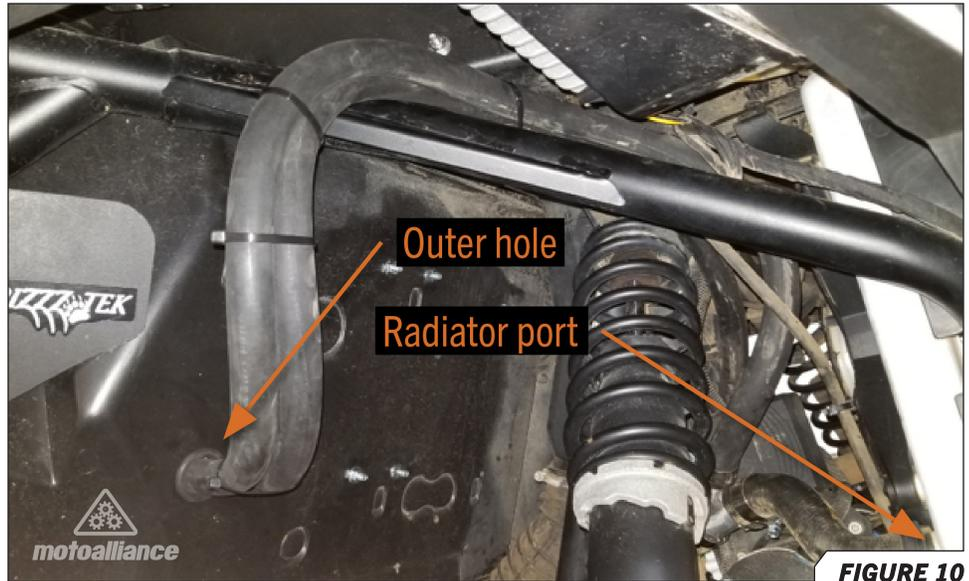

FIGURE 10
20. Route the cut-off portion of 5/8" radiator hose back through the outermost hole in the firewall, back over the frame rail, and to the outlet port of the radiator as shown in **FIGURE 10**. Leave the hose loose at this time.